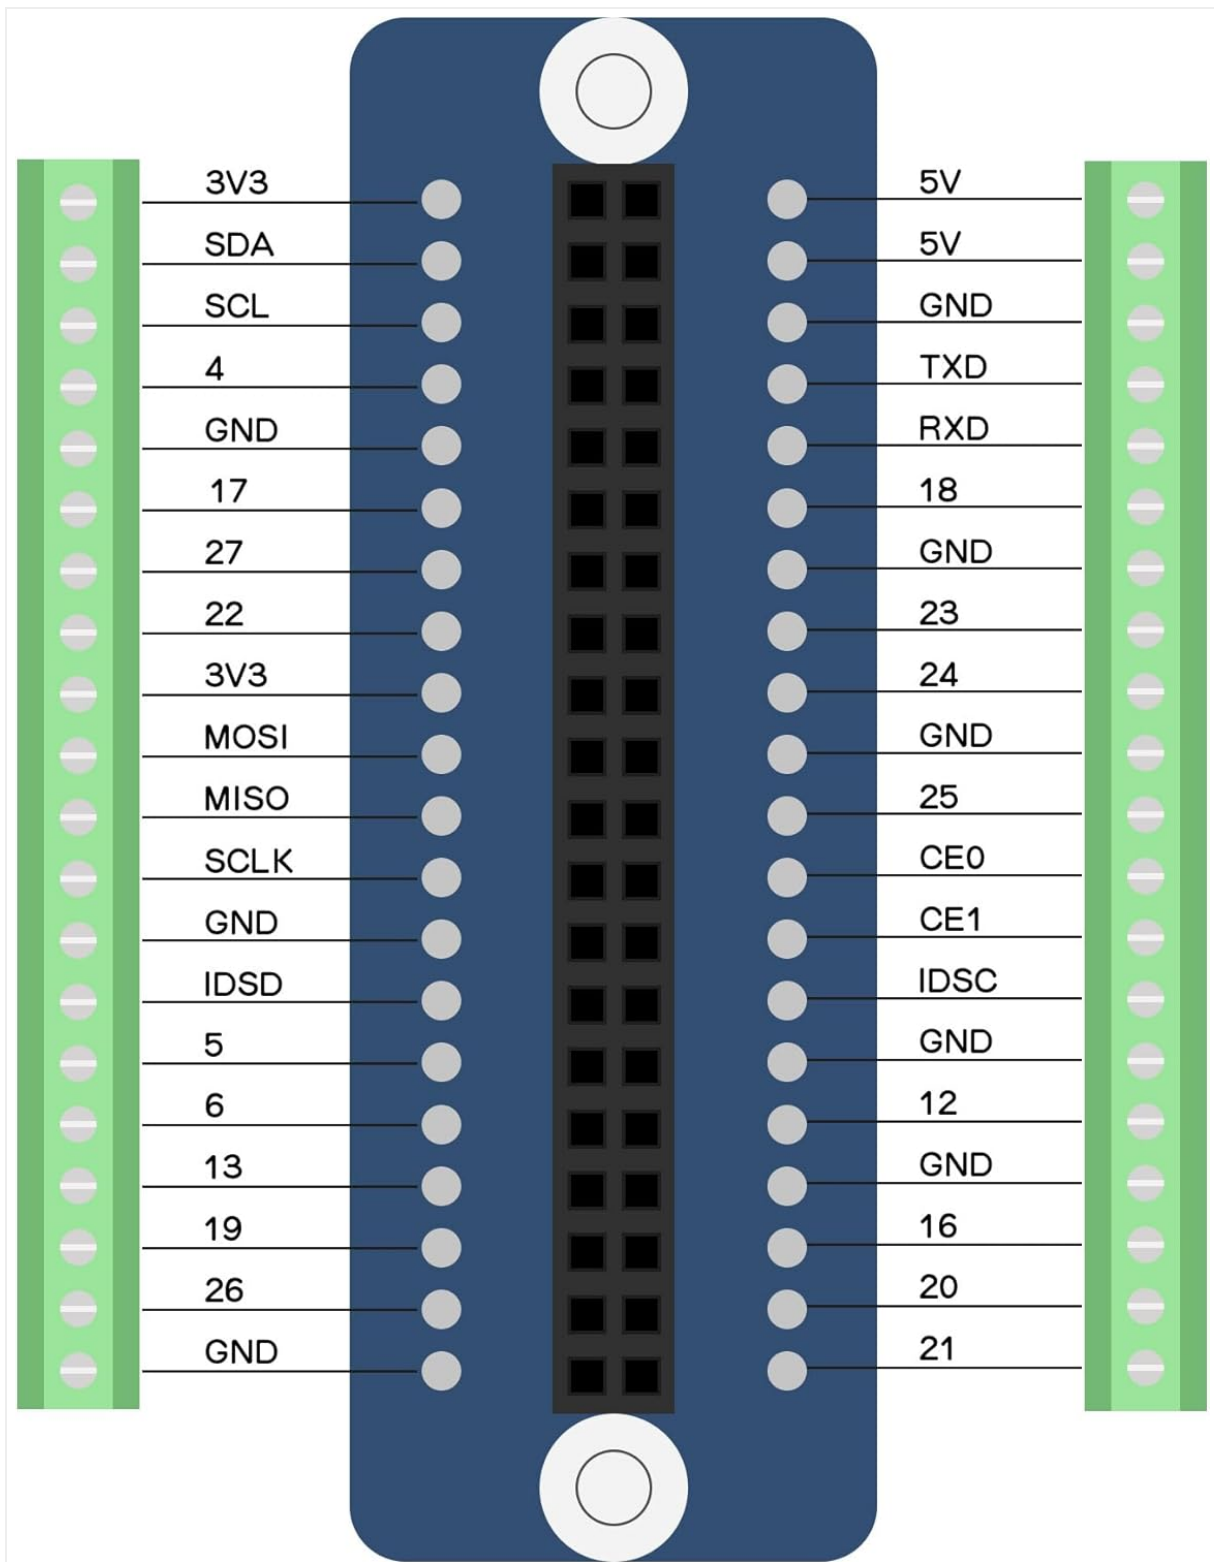

Figure 7.1: Pinout diagram of the G469 board, showing the mapping of Raspberry Pi GPIO pins to the screw terminals.
- Verify the correct pin assignments according to the pinout diagram (Figure 7.1).